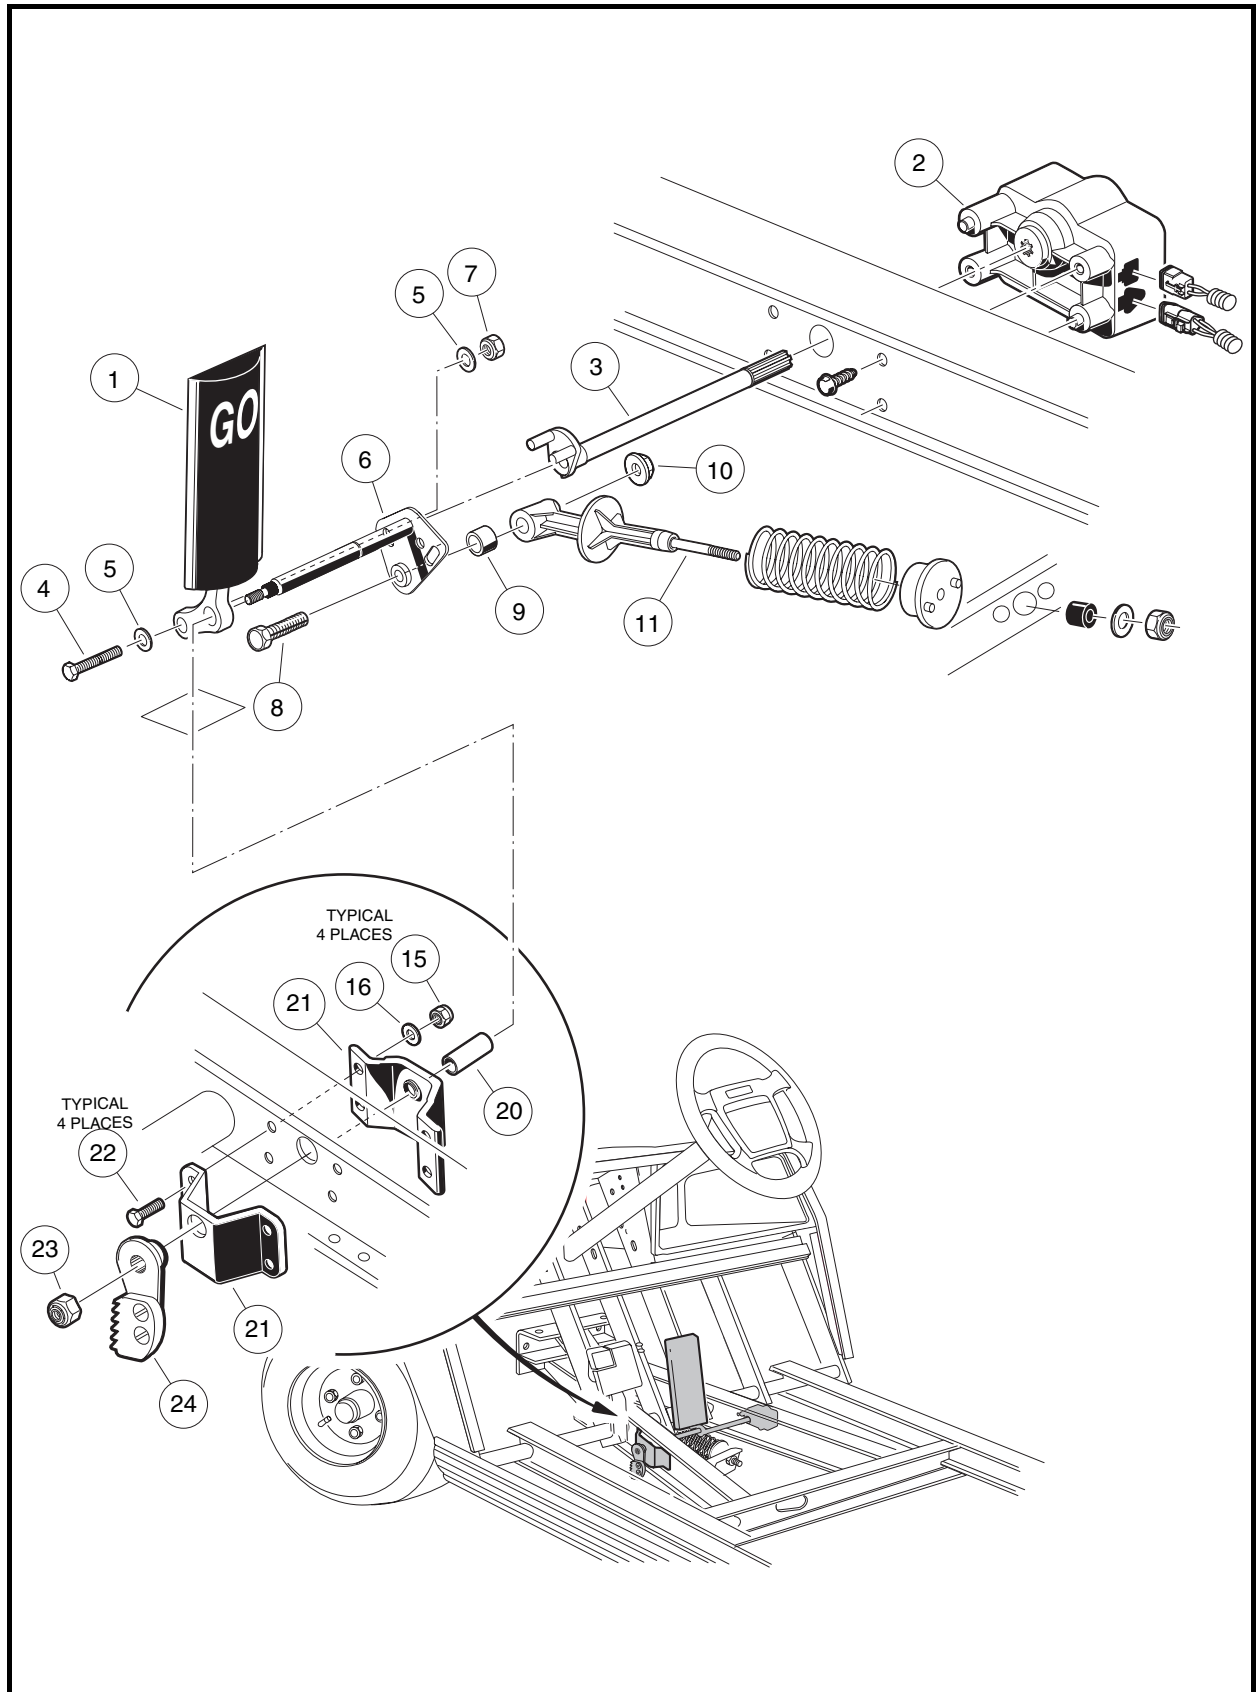

Figure 5-8 Accelerator Pedal – Electric Vehicle
3. Remove the MCOR (2) and drive bar (3) as instructed (**Figure 5-8, Page 5-10**). See **MCOR Removal, Section 12, in the appropriate maintenance and service supplement**.
4. Using a 9/16-inch socket and 9/16-inch wrench, remove the nut (7), two washers (5), and bolt (4) securing the accelerator pedal (1) to the pivot rod (6) (**Figure 5-8, Page 5-10**).
5. Remove the nut (10) and bolt (8) from the accelerator pivot rod assembly (6).
6. Slide the spring retainer (11) off of the accelerator pivot rod.
7. Inspect the pivot support bearing (9) for wear and replace if necessary.
8. Use a marker to mark the position of the park brake ratchet (24) on the accelerator pivot rod (6). See following **NOTE**.
9. Remove the lock nut (23) from the accelerator pivot rod.
10. Press the brake pedal slightly and slide the park brake ratchet (24) toward the end of the accelerator pivot rod. Rotate the ratchet and remove it from the pivot rod.
11. Remove the pivot rod (6) and spacer (20) from the accelerator pivot rod supports (21) (**Figure 5-8, Page 5-10**).
12. Inspect the accelerator pivot rod supports (21) for wear and damage and replace as necessary. If the pivot rod supports do not require replacement, loosen, but do not remove, the four bolts (22) and lock nuts (15) to make installation of the pivot rod easier.
13. Remove the accelerator pedal (1) from the vehicle (**Figure 5-8, Page 5-10**).
1. If the accelerator pivot rod supports were replaced, position the supports (21) on the vehicle frame and install the four bolts (22), flat washers (16), and lock nuts (15) (**Figure 5-8, Page 5-10**). Finger-tighten nuts at this time.
2. Insert the lower end of the accelerator pedal (1) through the floorboard and install the accelerator pivot rod (6) through the uppermost hole in the pedal.
3. Install plastic spacer (20) on pivot rod (6).
4. Insert the pivot rod through the pivot rod supports (21) on the vehicle frame.
5. Tighten the four bolts (22) attaching the pivot rod supports to the frame to 75 in-lb (8.5 N·m) (**Figure 5-8, Page 5-10**).
6. Insert the bolt (4), two washers (5), and a new lock nut (7) through the lower hole in the pedal and through the pivot rod. Finger-tighten lock nut at this time.
7. Install the bolt (8) through the pivot rod (6) and spring retainer (11). Secure these parts with the nut (10) (**Figure 5-8, Page 5-10**). Tighten the nut to 50 in-lb (5.5 N·m).
11. Install lock nut (23) on pivot rod (**Figure 5-8, Page 5-10**). Tighten to 18 ft-lb (24.5 N·m).
12. Install the MCOR (2) and drive bar (3) as instructed. **See MCOR Removal, Section 12, in the Power-Drive Maintenance and Service Supplement.**